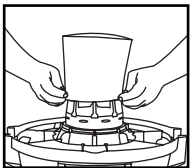

FIGURE 29
44. With tank cover in an upside down position, slide foam sleeve down over lid cage pulling until foam sleeve completely covers lid cage. **FIGURE 29.**